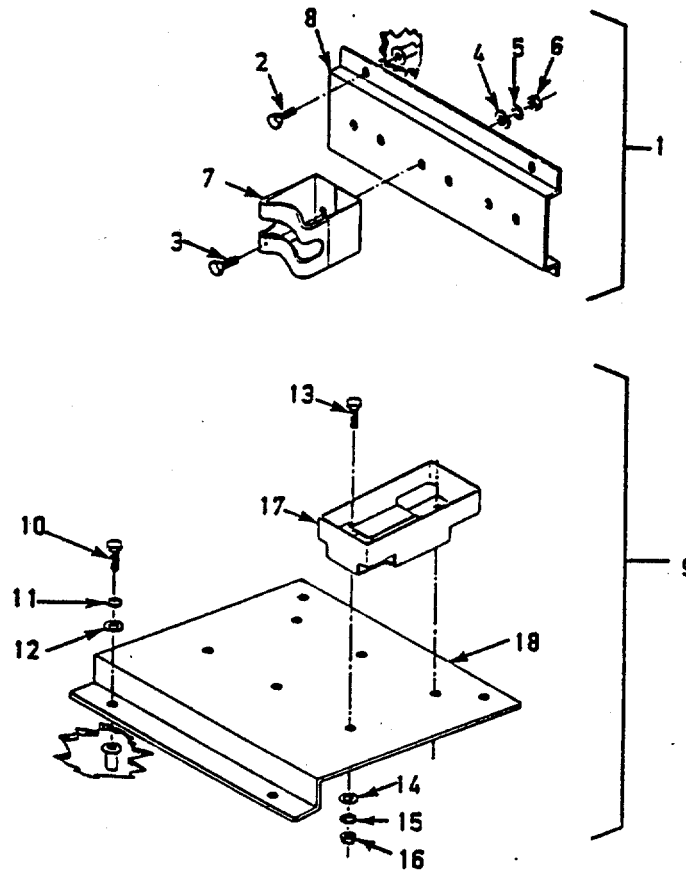

Figure 4-59. Gun Rack Assembly
a. Inspect. (See Figure 4-59.)
b. Replace. (See Figure 4-59.)
(1) Remove bolts (2) from wall gun support (1) and remove support.
(2) Remove bolts (3), flat washers (4), lockwashers (5) and nuts (6) from wall gun support assembly (1), and separate support (7) from mounting bracket (8).
(3) Remove bolts (10), lockwashers (11) and flat washers (12) from floor gun support assembly (9).
(4) Remove bolts (13), flat washers (14), lockwashers (15) and nuts (16), and separate gun support (17) and mounting bracket (18).
(5) Secure mounting bracket (18) to replacement gun support (17) with nuts (16), lockwashers (15), flat washers (14) and bolts (13).
(6) Place floor gun support assembly (9) in position and install bolts (10), lockwashers (11) and flat washers (12).
(7) Secure mounting brackets (8) to replacement gun support (7) with nuts (6), lockwashers (5), flat washers (4), and bolts (3).
(8) Place wall gun support assembly (1) in position and install bolts (2).
c. Repair. (See Figure 4-59.)